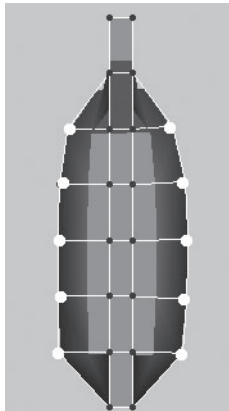

FIGURE 3.70 Lattice influence points dragged on both sides of the sack.
48. In Side view, drag the selected points approximately two units on the Z axis to match the other side of the sack, as shown in Figure 3.70.